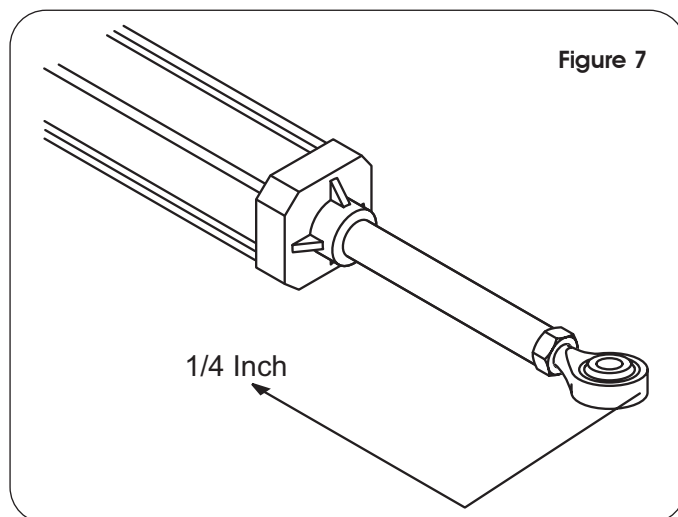

Figure 7
- 5.) Fully extend the rod out to its stopping point, then push it back approximately 1/4 inch (Fig. 7).